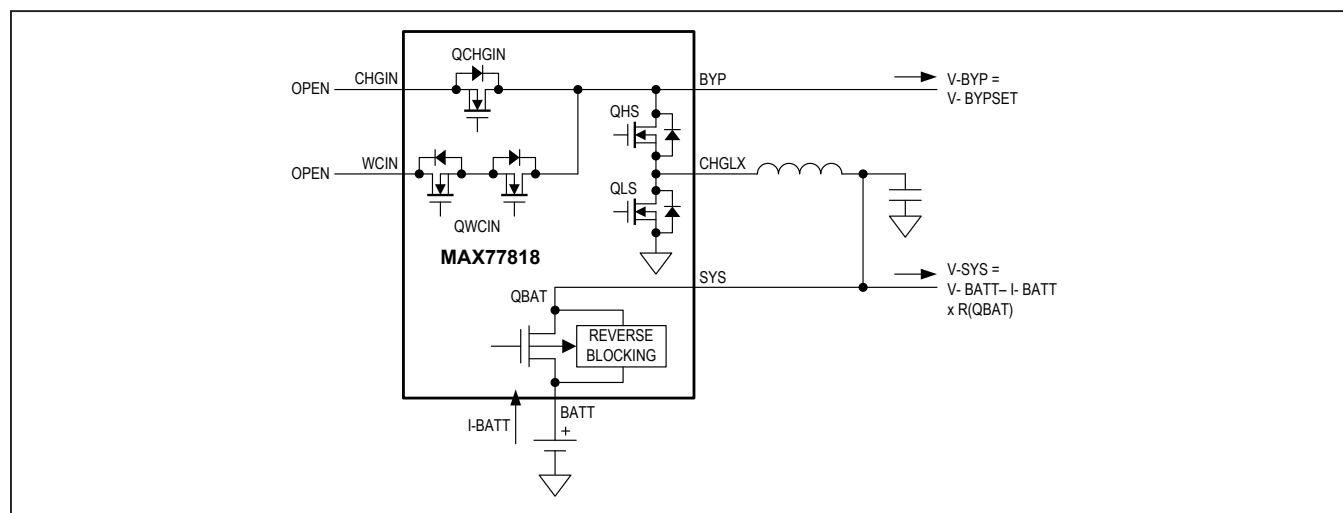

Figure 11. Battery-Boost
**Battery Boost, MODE = 0x08:** Adapter and Wireless inputs are invalid, outside the input voltage operating range (QCHGIN = off, QWCIN = off). Battery is connected to power the SYS load (QBAT = on), and charger is operating in Boost mode (Boost = on). See Figure 11.